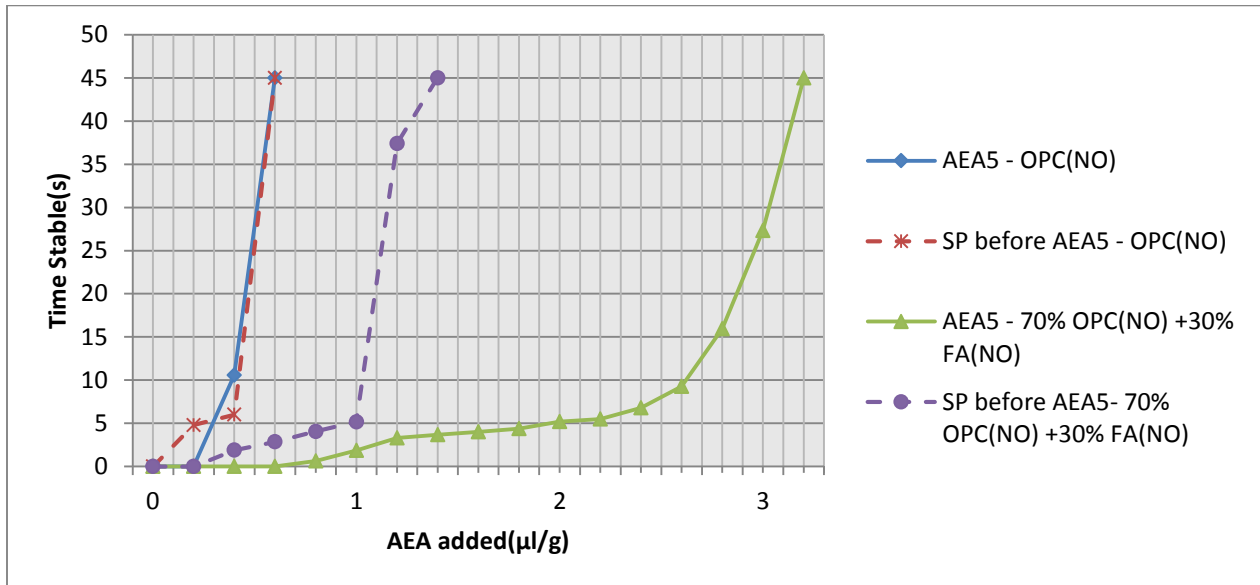
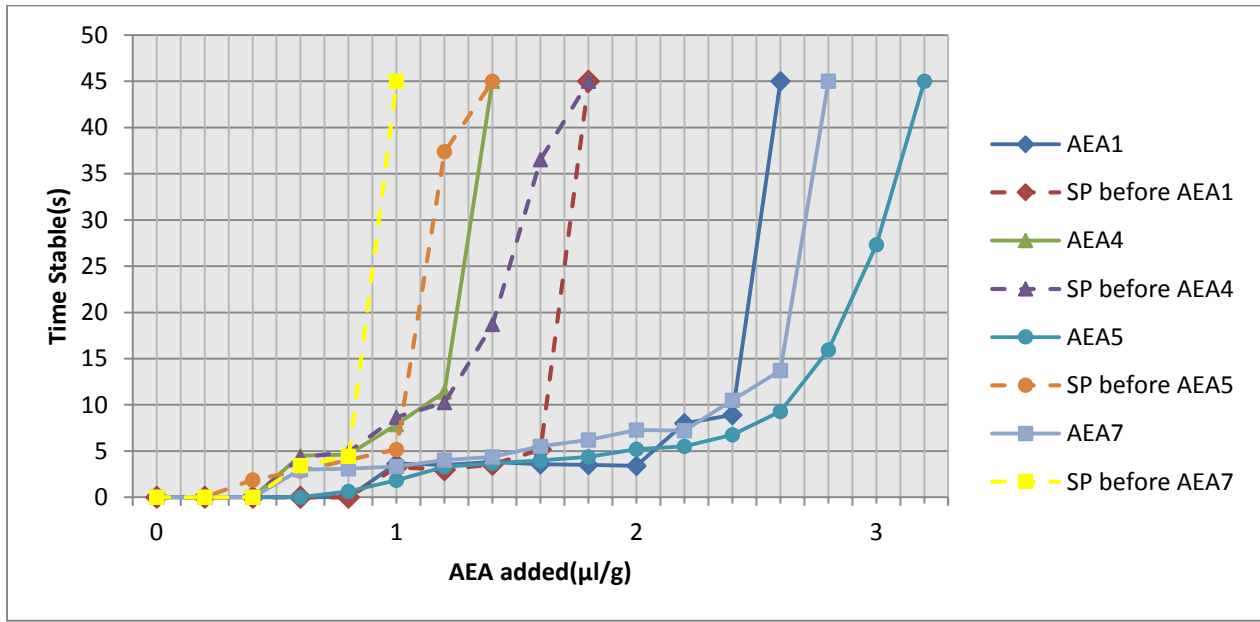

Figure 6: Effect of AEA (without SP) and SP before AEA on OPC and 70/30 OPC/FA from Norcem. Mapeair 25 1:9 was used.
Figure 7: Effect of AEA (without SP) and SP before AEA for 70/30 OPC/FA from Norcem
Figure 6 compares the results of AEA (without SP) and SP before AEA. AEA (without SP) are shown as solid lines and SP before AEA are the dotted lines. The powders are Norcem Standard (blue and red line) and Norcem Standard 70% + FA (NO) 30% (Purple and green line) AEA used was Mapeair 25 1: 9. 5 tests were conducted with Norcem Standard 70 % + 30 % FA (NO). Norcem Standard was tested just once for combinations of AEA and SP.
Figure 7 compares the results from AEA (without SP) and SP before AEA for several AEA's with 70/30 OPC / FA mixture (same OPC / FA mixture as in Figure 6). Pure AEA tests (without SP) are shown as solid lines, and tests of SP before AEA are the dotted lines. The cement material used is Norcem Standard cement 70% + Norwegian fly ash 30%.
As we can see from Figure 6, there is no effect of adding SP before AEA compared to without SP on the Norwegian Portland cement without fly ash (OPC (NO)). With Norwegian cement / fly ash (70/30), on the other hand, the Foam Index is much lower if we add SP before AEA compared to without SP. This suggests that there is a mechanisms (reaction, adsorption) between Fly ash and SP, which makes it easier for AEA to create foam when added after SP.
In Figure 7, we also see that SP added before AEA gives a positive effect on the Foam Index also for other types of AEA (both Norwegian and US) when used with the same Fly Ash binder as in Figure 6. There is one exception though: Sika Multi Air which foams slightly more effectively without SP. This could be within the scatter and could indicate that the foaming of this AEA (which has a very low Foam Index when used without SP and hence seems to be very efficient with this 70/30 OPC/Fly Ash binder) also is unaffected by SP under these conditions.